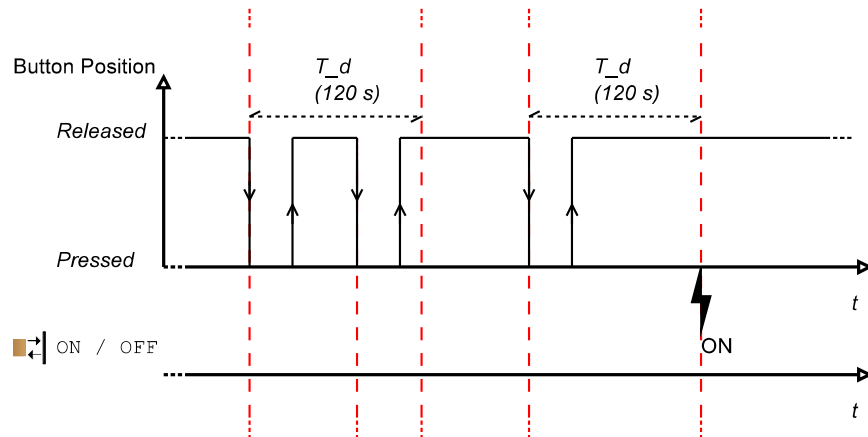

Figure 2: Example of "ON / --" with emission delay cancellable by second press
start counting until 120 seconds and then the output Communication Object (CO) will send the value “On”. However, if you press the button before elapsing 120 seconds, the timer will be cancelled (see Figure 2).